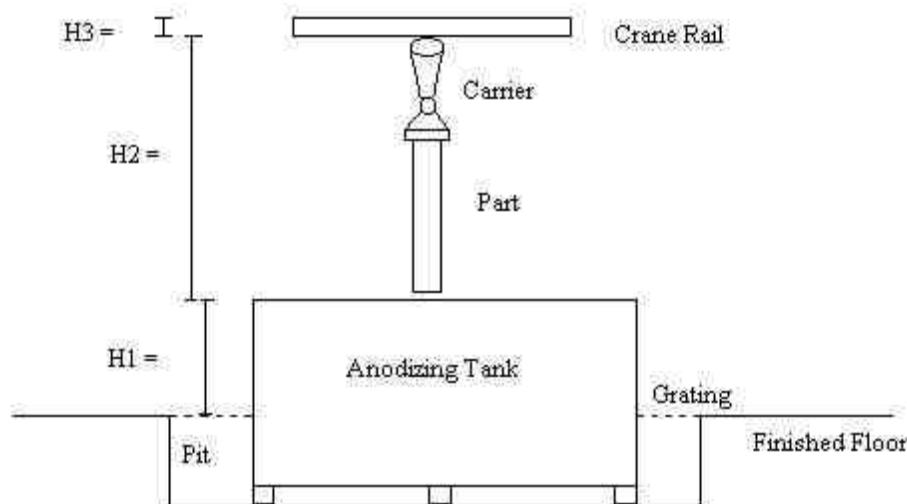

Fig. 1 – Simplified Section of Anodizing Tank Line.
A containment pit (as shown in Figure 1) is essentially a recessed area of the workspace in which the process tanks will reside. There are several important factors to consider during the design of the pit:
4. The tanks should be placed in the pit in a way that allows the top of the tanks to be at least 42 inches above the working surface2 to protect workers from accidentally entering the tank. In other words, H1 (as shown in Figure 1) must be 42 inches or more.
5. The pit should be covered with grating (as shown in Figure 1) to prevent accidental falls and injuries.
8. Pit construction should consider that tanks should not be placed directly on the floor (as shown in Fig. 1).
Whether building a new facility or facility addition, or renovating an existing facility, roof height is an important consideration. The inside clear height of the building must exceed the height of the processing tanks above the finished floor, plus the height of the part and the height of the part carrier and crane rails, as shown in Equation 1. (See Figure 1 for a description of H1, H2, and H3.)
Grating is typically used as the walking surface in an anodizing shop if the tanks are recessed in a pit (as shown in Figure 1) or if the tanks are accessed by a raised platform. The two major types of grating used in facilities today are metal and plastic.